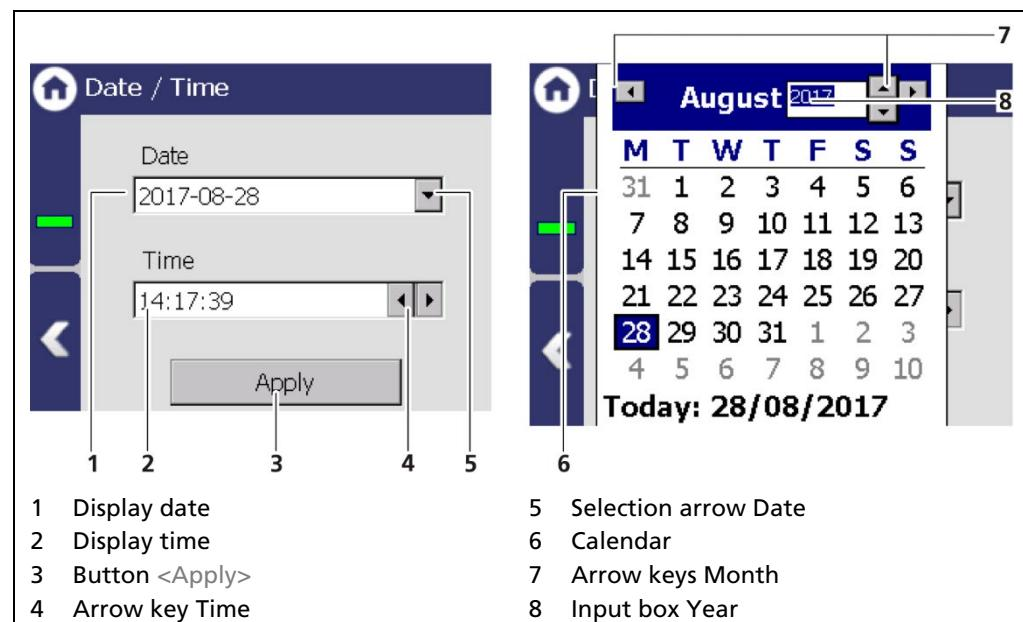

Fig. 39 Date / Time, calendar
1. Click <Edit> (Fig. 39, item 2) to open the input field.
Automatic logout	Activating the selection box (Fig. 39 item 1) automatically resets the access level Standard to "Basic" when the system changes to the standard display after the timeout (Chap. 7.3.1).
1. Click on the arrow key (Fig. 39, item 5) in order to set the date.
► The calendar is opened (Fig. 39, item 6).
2. Click on the year number (Fig. 39, item 8) in order to enter the year.
3. Set the month (Fig. 39, item 7) by clicking on the arrow keys.
5. Change the time by clicking on the arrow keys (Fig. 39, item 4).
6. Click on <Apply> (Fig. 39, item 3), to accept the date and time settings.